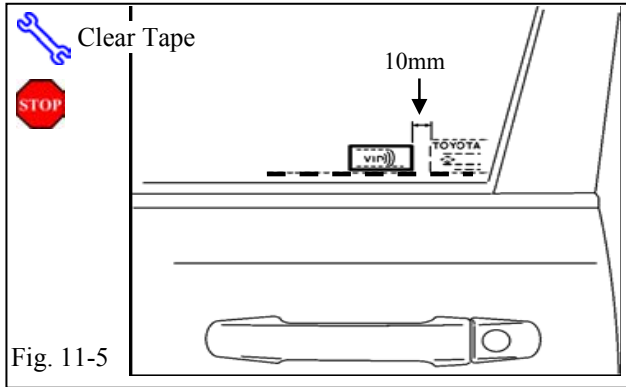

Fig. 11-5
- (h) Using Household Windex, clean the inside of the Front Door Windows. (Fig. 11-5)
- (1) When cleaning with Household Windex, follow the Manufacturer's Directions.
- (i) Place the warning labels on the inside of the Front Door Windows as shown. (Fig. 11-5)
- (1) Use a piece of clean adhesive tape to lift the labels off their protective backing.